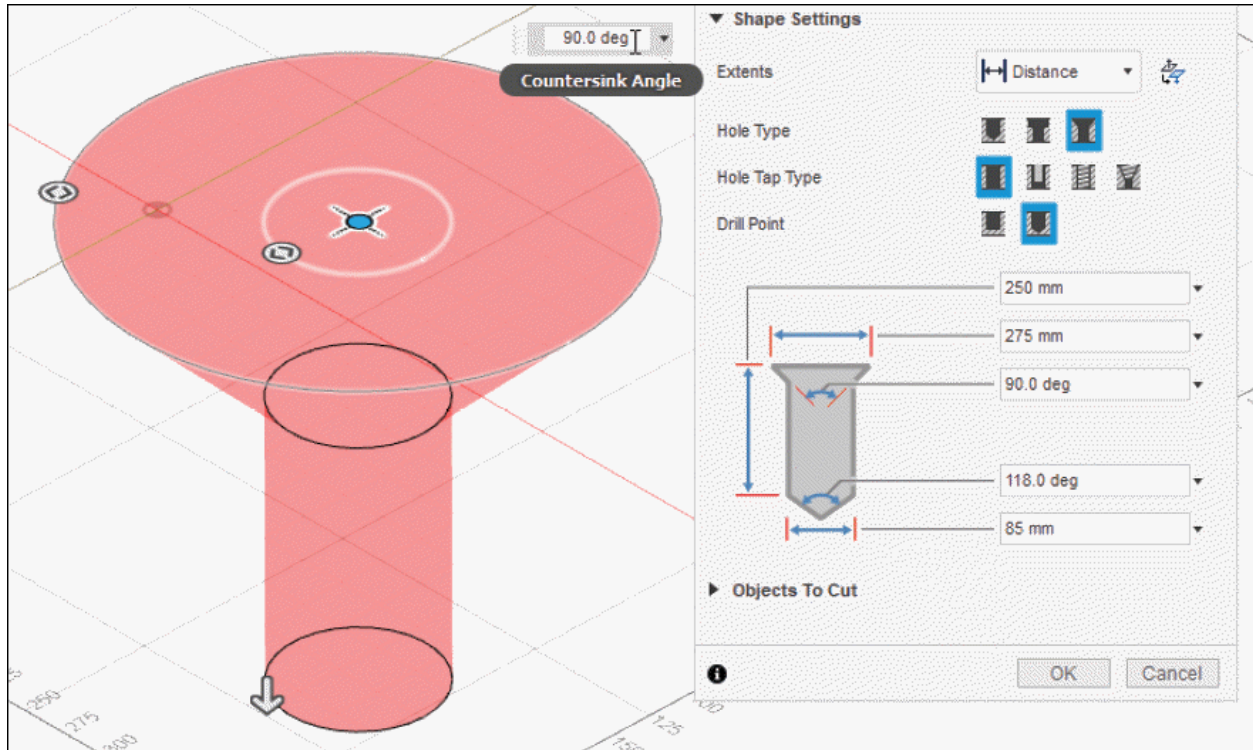

Figure-45. Countersink hole
- Click on **Countersink** button in **Hole Type** drop-down to create a countersink hole and specify the dimension in their respective edit box at the bottom in the dialog box; refer to Figure-45.